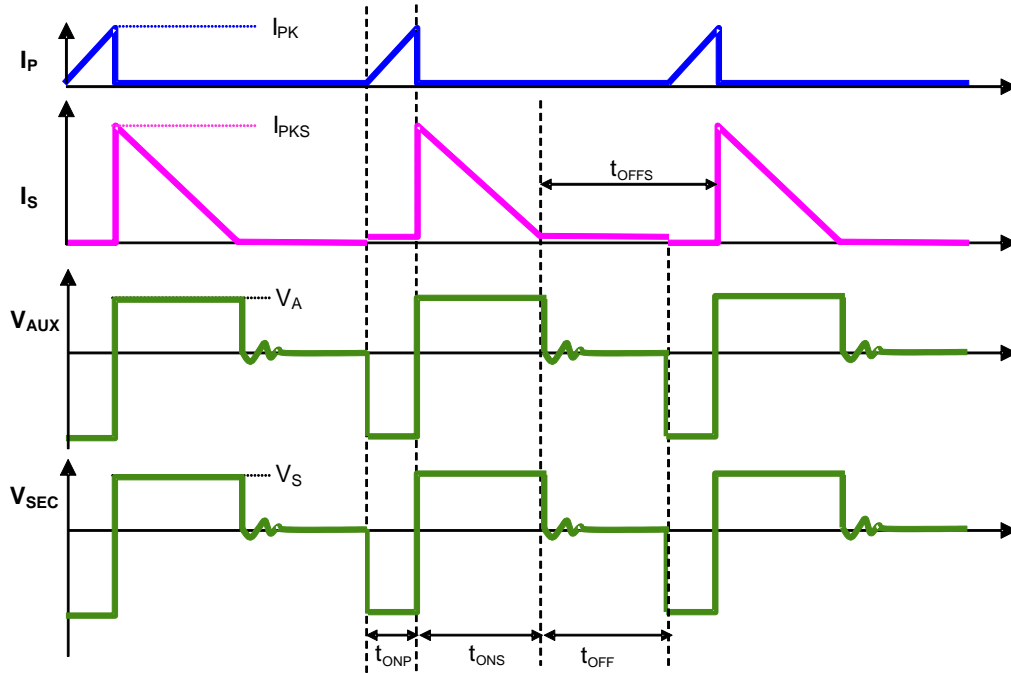

Figure 2. The Operation Waveform of Flyback PSR System
Figure 2 shows the typical waveforms which demonstrate the basic operating principle of AP3776B application. And the parameters are defined as following.
As illustrated in Figure 2, when the current  $i_p(t)$  rises up to  $I_{PK}$ , the switch Q1 turns off. The constant peak current is given by:
The AP3776B can work in constant-current (CC) mode. Figure 2 shows the secondary current waveforms.